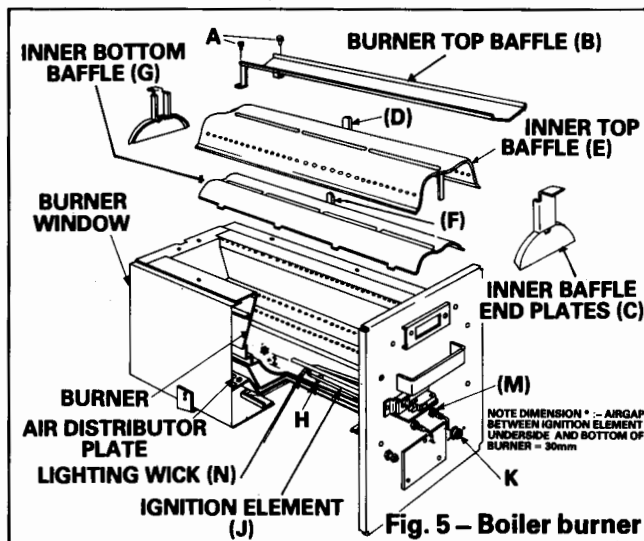

Fig. 5 – Boiler burner
3. b. To Clean the Boiler Burner – See Fig. 5
- Slacken and remove two ignition element retaining nuts **M** and withdraw the ignition element **J** from oil burner. Check capillary wick on ignition element is undamaged and replace if necessary – See Fig. 5
- Fit new ignition element with capillary wick in position **N** ensuring it makes contact with the bottom of the oil burner. Check that the air gap between the underside of the element and oil burner bottom measures 30mm and manually set it if necessary – See Fig. 5.